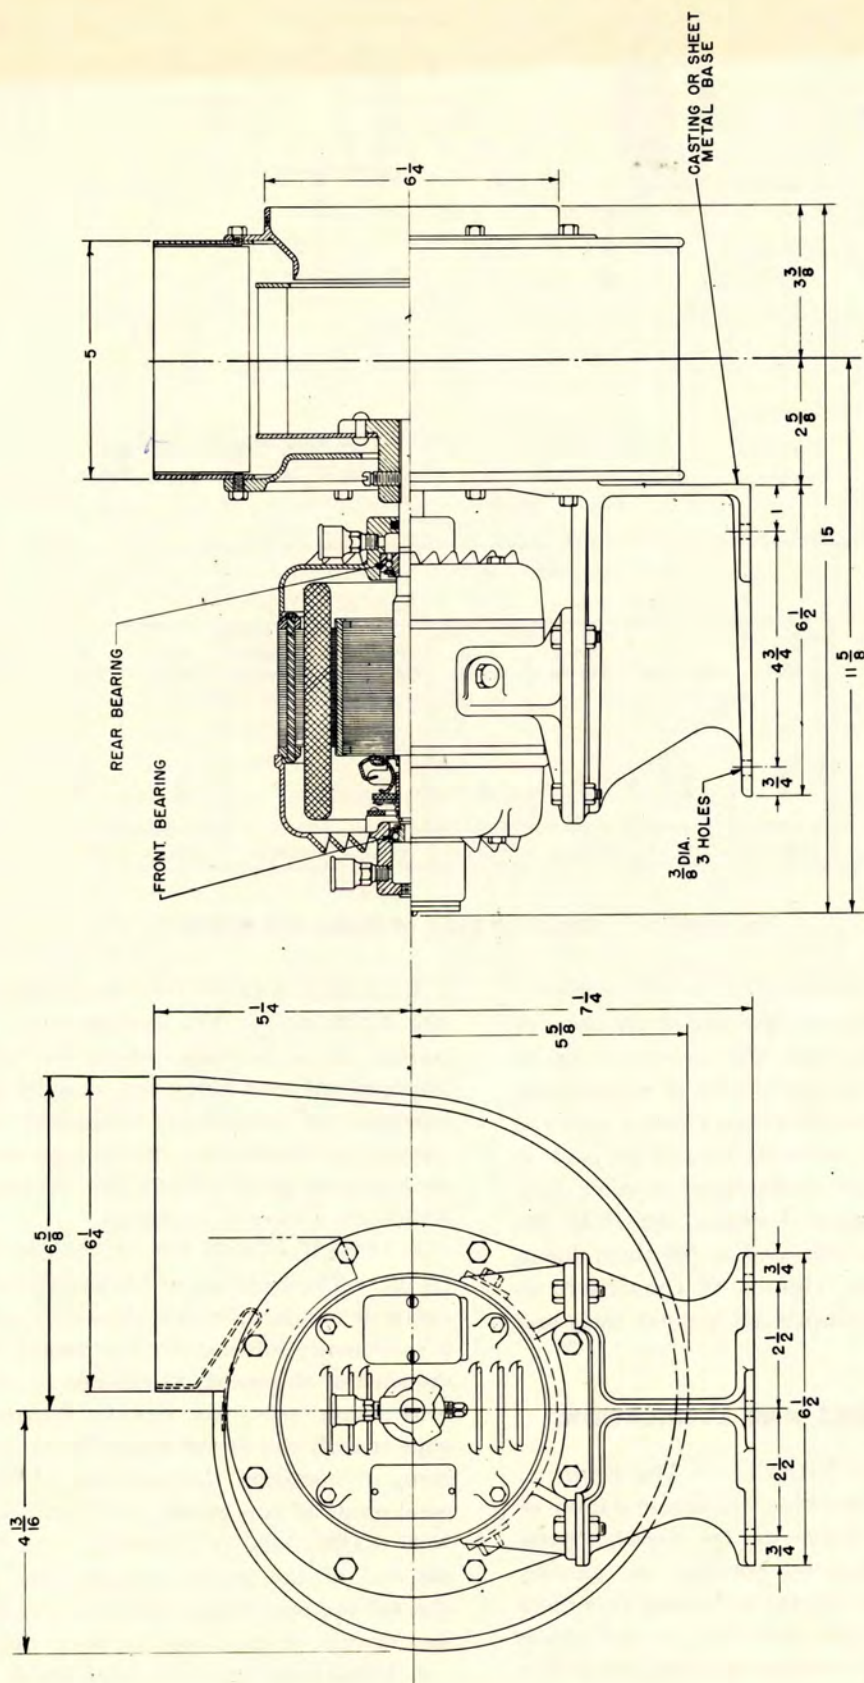

Figure 6-12. Assembly, Blower BL101
(2) Remove the four through-bolts, and disassemble the motor. Be careful not to damage the armature or windings.
(3) Remove the oil-well cover.
(4) Remove the wool waste and wool yarn through the oil-well cover hole.
(5) Press out bearing with a 1/2-inch shouldered plug.
(6) Reinsert a new bearing, using a 1/2-inch shouldered guide plug; press into housing so that oil slot is at the top of the bearing and the inner edge of bearing is flush with the housing.
(7) Place both heads on the motor shell in the correct position, tighten through-bolts, and line ream the bearings to 0.500 ± 0.0002 inch.
(8) Remove heads and reassemble motor. Clean all parts before reassembly.
(9) Place wool yarn in the oil well over the shaft and tamp to the bottom of the oil well. Make sure that the yarn touches the shaft. Fill the remainder of the oil well with the wool waste. Saturate the wool yarn and waste with a good grade of SAE No. 20 oil.
(10) Replace the oil caps, if necessary using new caps.
(11) Replace motor and fan on fan frame.
b. BLOWER BL101. — If ball bearings used in the motor of blower BL101 (figure 6-12) require replacement, the following procedure is recommended:
(1) Loosen the setscrew holding the blower to the motor shaft, and remove the motor from the blower frame.
(2) Remove the front and rear heads by removing the bolts holding the heads to the frame.
(3) Disassemble the motor, being careful not to damage the armature or windings.
(4) Remove the bearing from the armature shaft, using a puller, if necessary.
(5) Heat the replacement bearing in oil, not ex-